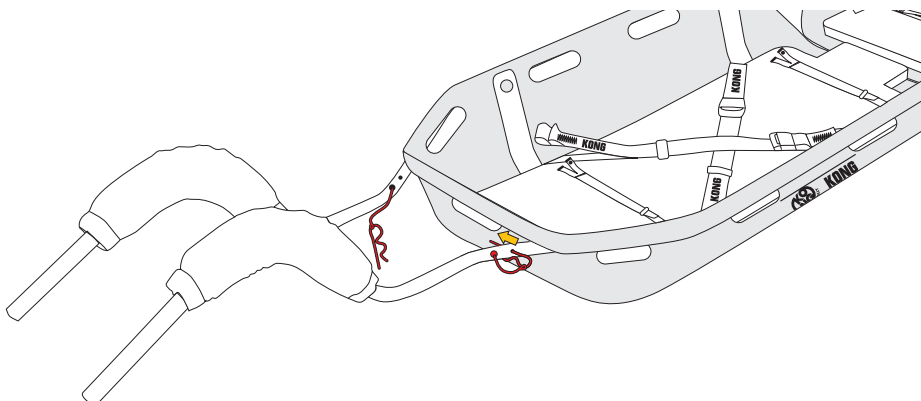

Fig.15
- b) Lock the connection by inserting the shaped plug into the corresponding hole (Fig. 15).